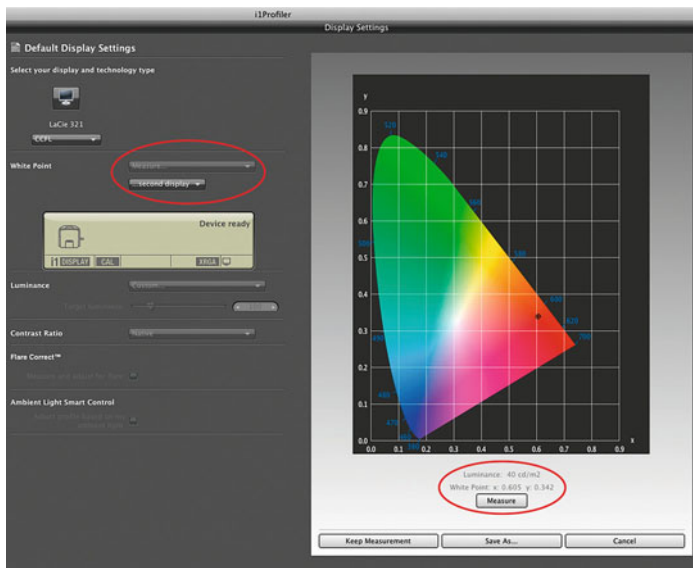

FIGURE 19.10 Measuring xy values for the red primary of an iPad 2 with an i1 Display Pro colorimeter in i1Profiler software.
2. Display these colors on your tablet and measure their xy values with a colorimeter or spectrophotometer, as shown with X-Rite i1Profiler and an i1Display Pro colorimeter in Figure 19.10.